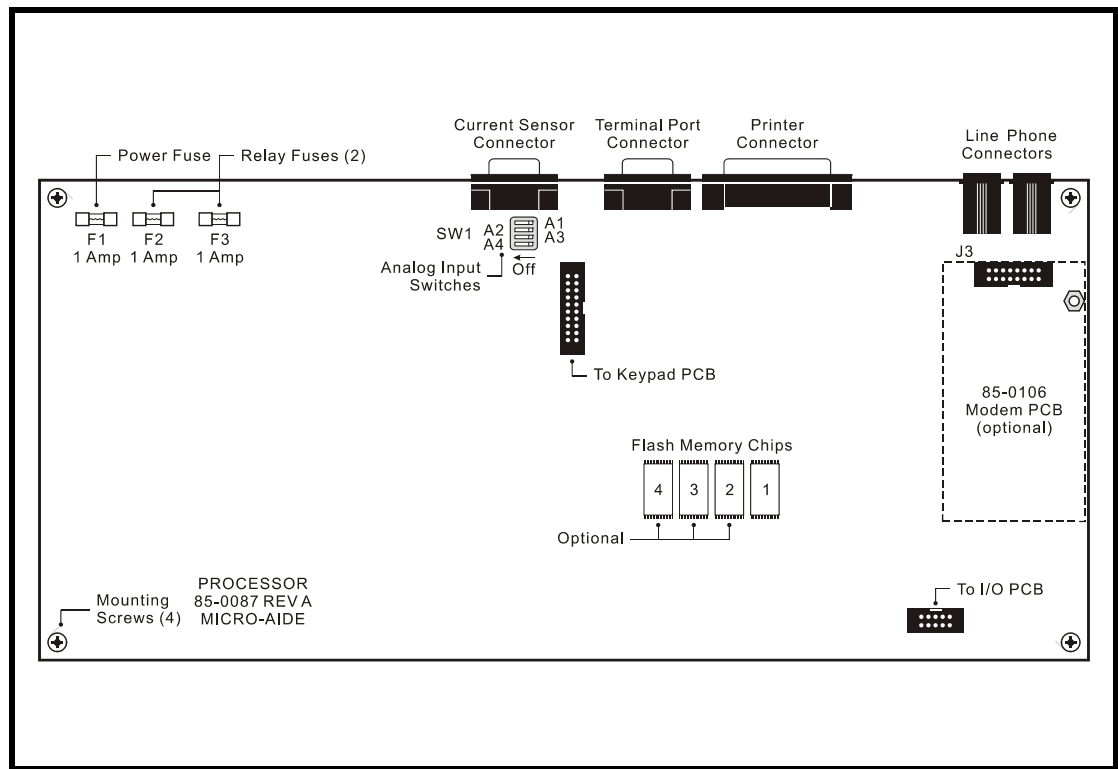

Figure 6 - CWR-264 Processor PCB
There is a single DIP switch assembly mounted on the Processor PCB. It is referred to as the Analog Input Switch and is labeled “SW1”. The DIP switch assembly contains four switches. Labeling on the body of the switch assembly indicates the on and off positions for each switch. Refer to Figure 6 on page 85 to locate the described switch.
2. Locate the sixteen-pin male connector labeled “J3 MODEM” near the upper right-hand corner of the Processor PCB. The modem connector is illustrated in Figure 6.